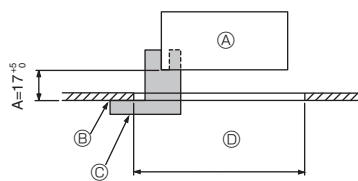
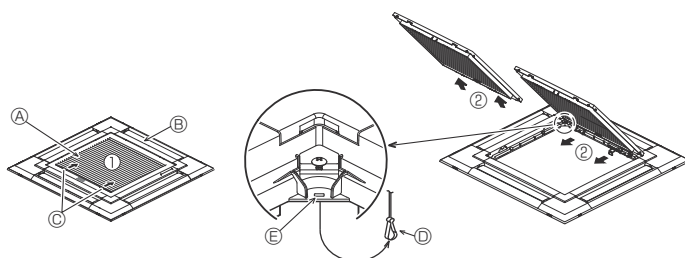
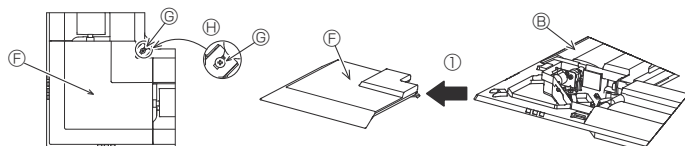

Fig. 9-2
Fig. 9-3
Fig. 9-4
①	Grille	1	950 × 950 (mm)
②	Installation gauge	1	(Divided into 4 parts)
③	Screw (4 × 16)	1	For PLP-6EAE, PLP-6EALE, PLP-6EALME
④	i-see Sensor corner panel	1	For PLP-6EAE, PLP-6EALE, PLP-6EALME
⑤	Wireless remote controller	1	For PLP-6EALM, PLP-6EALME
⑥	Remote controller holder	1	Included when equipped with the wireless remote controller.
⑦	LR6 AA batteries	2	Included when equipped with the wireless remote controller.
⑧	3.5 × 16 tapping screws	2	Included when equipped with the wireless remote controller.
9.2. Preparing to attach the grille (Fig. 9-2)
- With the gauge ② supplied with this kit, adjust and check the positioning of the main unit relative to the ceiling surface. If the main unit is not properly positioned relative to the ceiling surface, it may allow air leaks or cause condensation to collect.
- Ⓒ Installation gauge ② (inserted into the main unit)
9.2.1. Removing the intake grille (Fig. 9-3)
- Slide the levers in the direction indicated by the arrows ① to open the intake grille.
- With the intake grille in the "open" position, remove the hinge of the intake grille from the grille as indicated by the arrows ②.
9.2.2. Removing the corner panel (Fig. 9-4)
- Loose the 4 screws on the corner. Slide the corner panel in the direction of the arrow ① in the figure and remove the corner panel.
[Fig. 9-3] [Fig. 9-4]